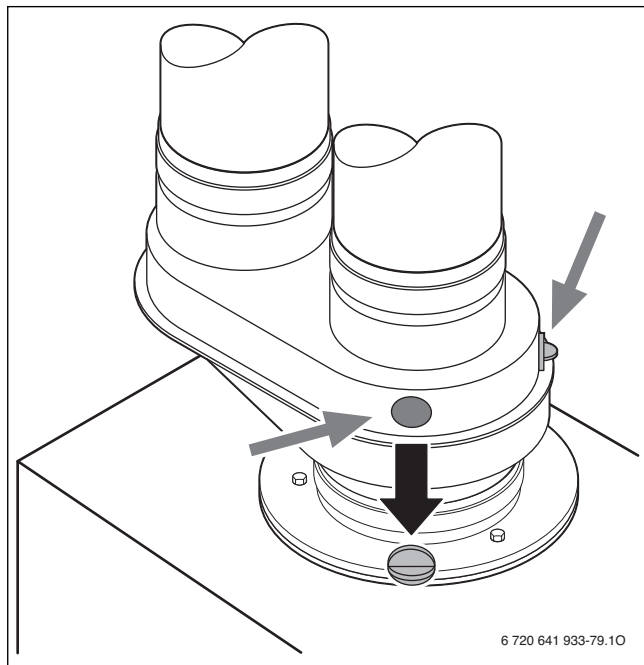

Fig. 56 Open one of the flue gas test ports
- ▶ Remove plug from flue gas test port (→ Fig. 56, page 47).